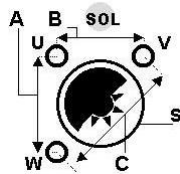

Fig. 1
The Mounting Holes (A, B, and C in Fig. 1) of the alternative unit must be the same. Measurements are done Centre to Centre of the holes. The easiest way to measure Centre to Centre is from the right of one hole to the right of the other hole, see example below (Fig. 3):
Fig. 1 is an example on an Alternator with 2 mounting feet. The distance between the feet is important (H) and the measurement for the distance of the pulley from the mounting position (F) is done from behind the front foot to the start of the pulley groove.